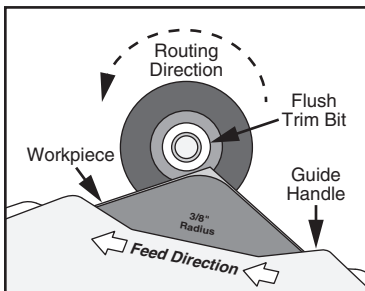

Figure 5. Routing direction.
8. Firmly grasp guide handle and trim corner radius by moving workpiece in a counter-clockwise direction, as indicated on the guide handle (see **Figure 5**).